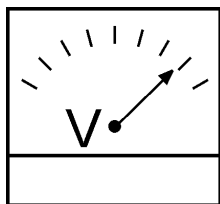

**Figure 38. Frequency Meter**
8. The generator's frequency meter (Figure 38) should be displaying the 60 cycle output frequency in **HERTZ**.